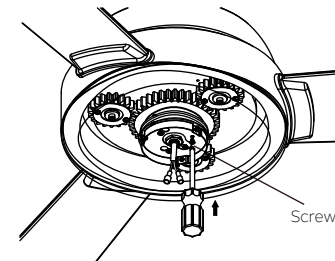

Fig. 25
Step 3. Securely by tightening the 2 screws previously loosened and the one previously removed. (Fig. 25)